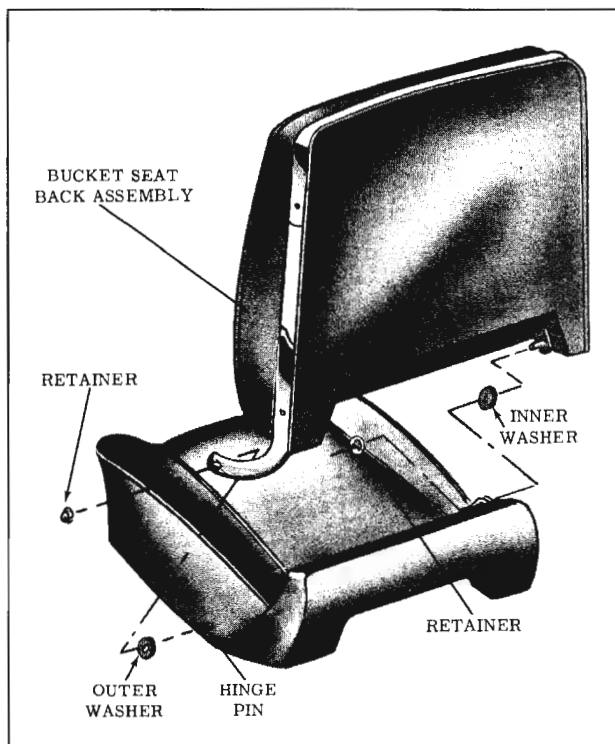

Fig. 16-316 Bucket Seat Back Removal
1. Using a flat-bladed tool, carefully remove retainer from outer hinge pin. (Fig. 16-316)